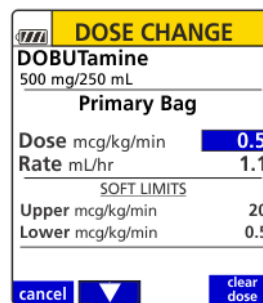

Figure 78. Dose Change Screen.
2. The current dose is displayed along with the dose soft limits. Observe the displayed dose soft limits. See Figure 78.